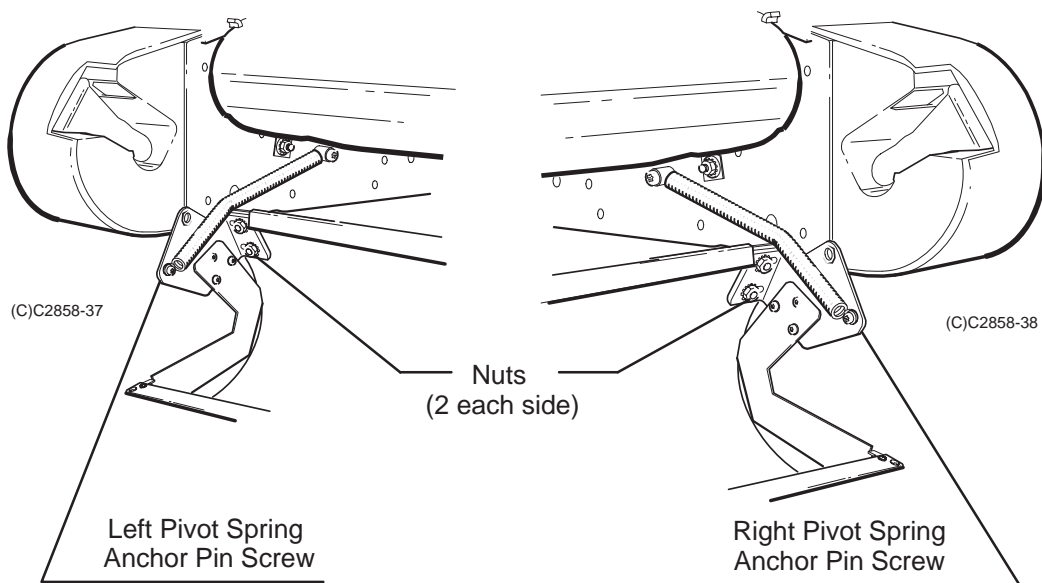

Figure 6-21.
2. Using a TORX T-10 screwdriver, remove the screws and washers that attach the left and right springs to the pivot spring anchor pins. See Figure 6-21.